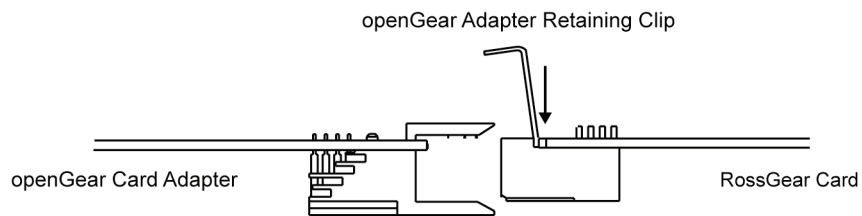

Figure 8. Positioning the openGear Adapter Retaining Clip — Side View
4. Ensure the openGear Adapter Retaining Clip is upright and perpendicular to the RossGear card. Refer to **Figure 8** or details.